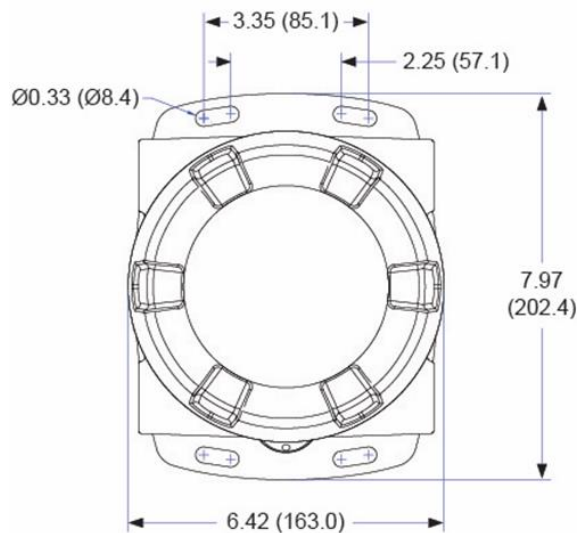
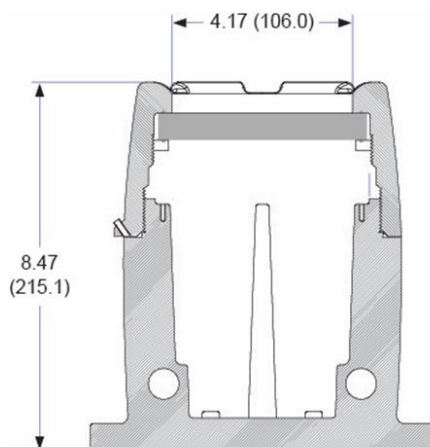

Figure 2. Enclosure Dimensions – Front View
Figure 3. Enclosure Dimensions – Side Cross Section View
Refer to *Figure 2* and *Figure 3* below.
- Prepare a section of wall approximately 7" x 8.5" (178 mm x 216 mm) for meter mounting by marking with a pencil the mounting holes (shown in *Figure 2*) on the wall.
- Select the appropriate mounting screws for the mounting surface to be used. The mounting holes diameter is shown on *Figure 2*.